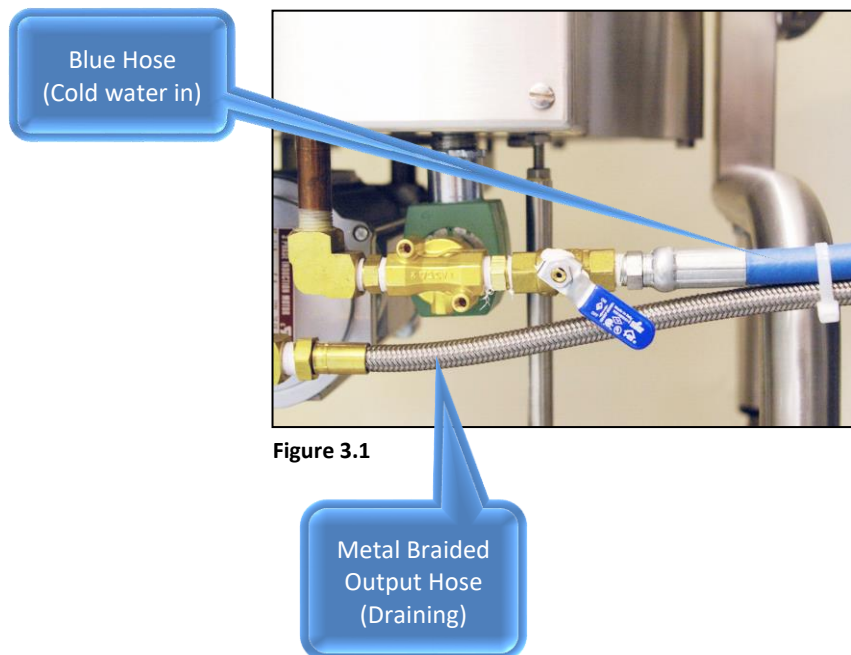

Figure 3.1
5. The FM-14 has a water-flush cooling feature. Connect the blue hose, which has a standard hose fitting on the open end, to a cold-water source (Fig. 3.1) — a sink faucet is commonly used. Having water flow through the system removes heat from the cooker bottom, slowing the cooking process near the end of the batch.